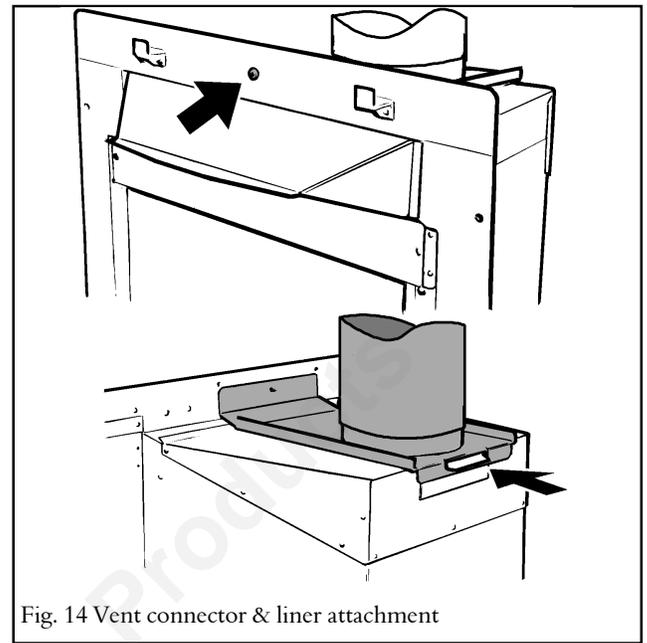

Fig. 14 Vent connector & liner attachment
9.2 Secure the collar on the vent connector unit to the 5" diameter chimney liner (Fig. 14).
9.4 Pull the vent connector towards the front of the fireplace and locate the rear slot in the plate on the lip at top rear of the convection box. Fix the front of the vent connector plate to the convection box top using the screw previously removed (Fig.14). Make sure that the connector plate does not interfere with the seal at back of the convection box top flange.